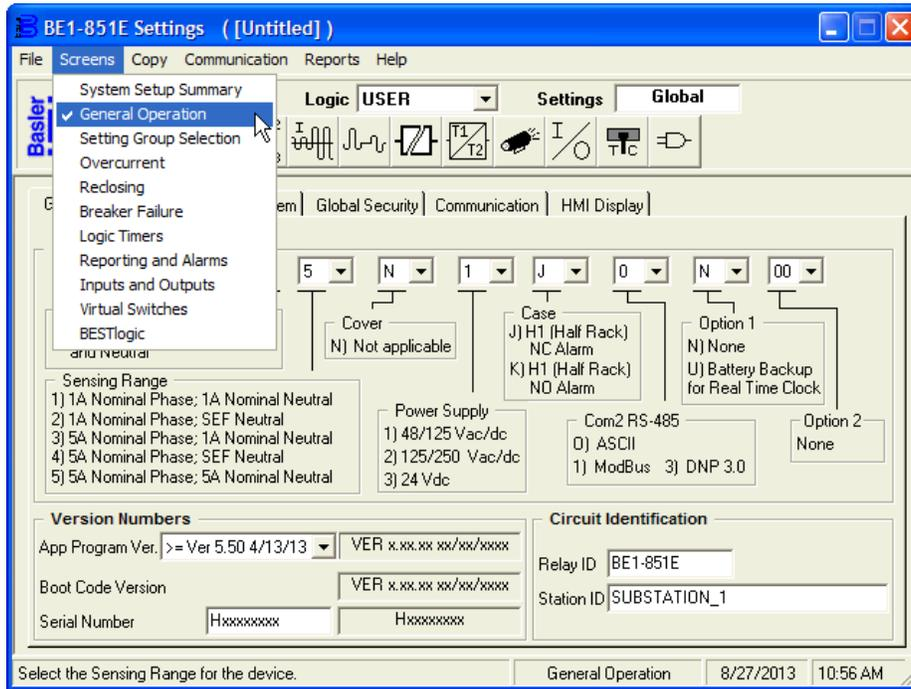

Figure 2-4. Screens Pull-Down Menu
The BE1-851E relay requires information on the nominal system frequency, DSP filtering, Current Transformer (CT) ratio, and phase rotation for proper current measurement to occur. These settings can be made using BESTCOMS. Select *General Operation* from the Screens pull-down menu. Then select the tab labeled *Power System*. Refer to Figure 2-4.